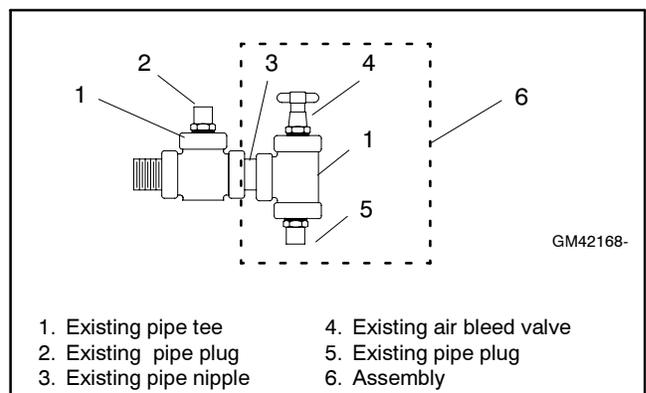

Figure 4 Existing Pipe Tee Configuration
- 2.11 Locate the existing pipe tee on the right side of the engine where the block heater hose emerges from the center of the cylinder head. See Figure 4.
- 2.13 Remove the pipe nipple, air bleed valve, pipe tee, and pipe plug as an **assembly** from the existing pipe tee. See Figure 4.